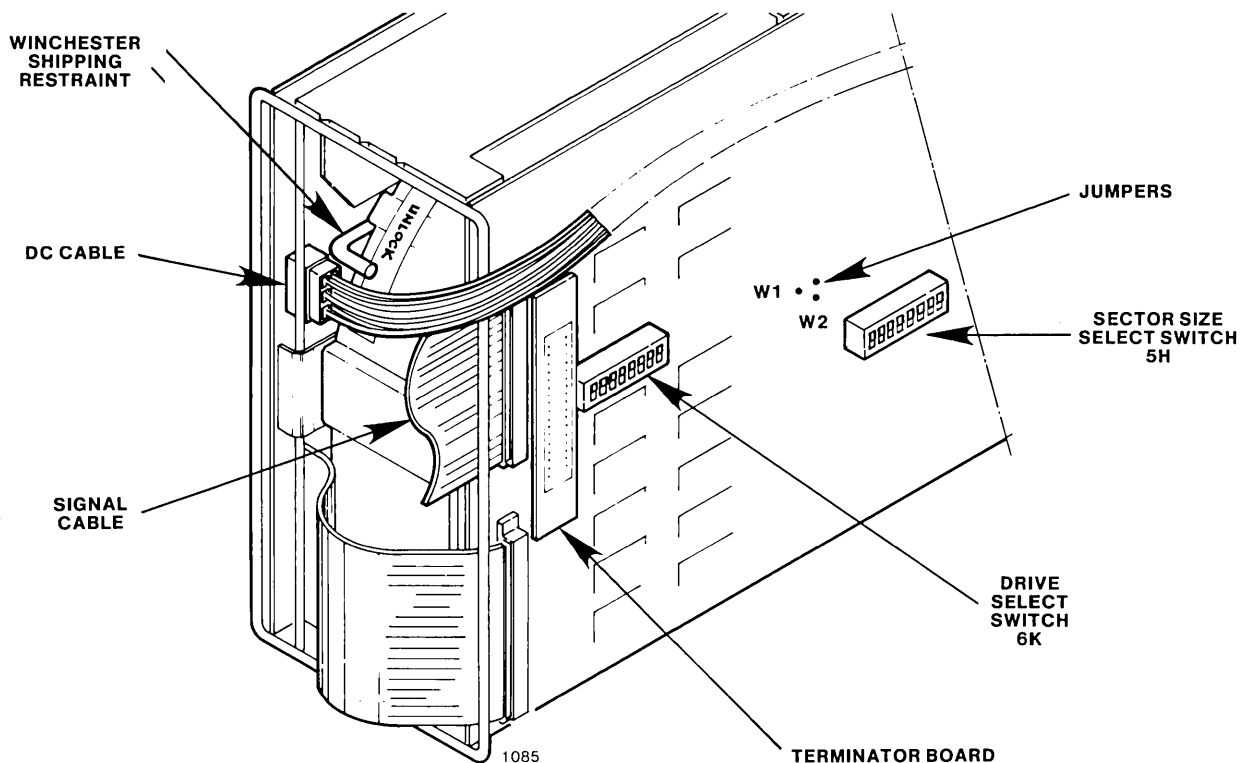

Figure 2-1. Winchester Shipping Restraint Location (PRIAM 3450)
- b. Remove two screws securing the center bay filler panel to the front of the Peripheral Chassis and remove the filler panel. The head-locking restraint lever is located directly behind the panel above a label indicating LOCK/UNLOCK. See Figure 2-1 for the approximate location of the lever.